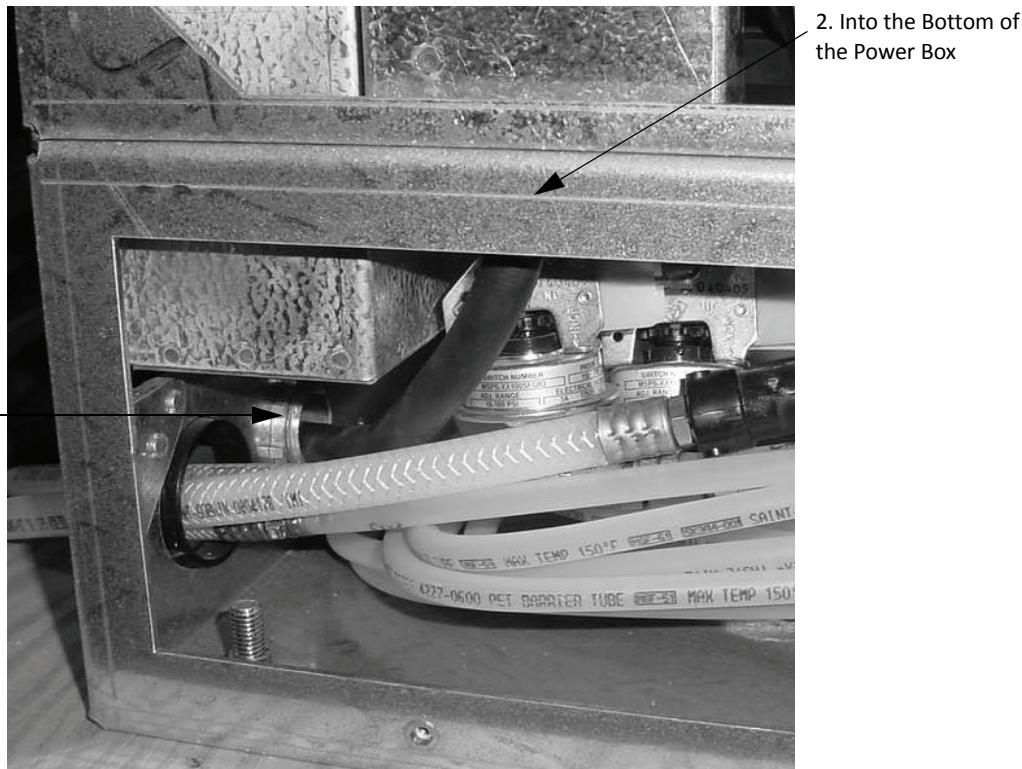

Figure 2.
3. Feed the power cord through the strain relief either through the bottom or back of the frame, see Figure 2. and into the power box.